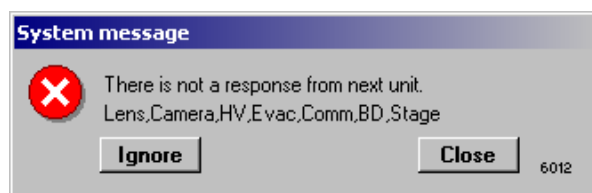

Fig. 2-9 System Error Message
- (c) In addition, a window as shown in Fig. 2-9 opens. On this window, press the **Close** button to terminate the initial setting. According to “error messages” in 4.5, take a proper measure or contact Hitachi representative.